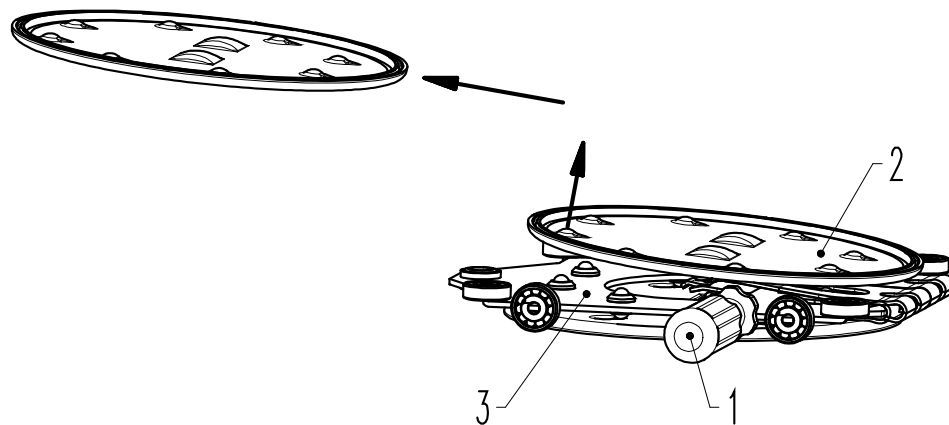
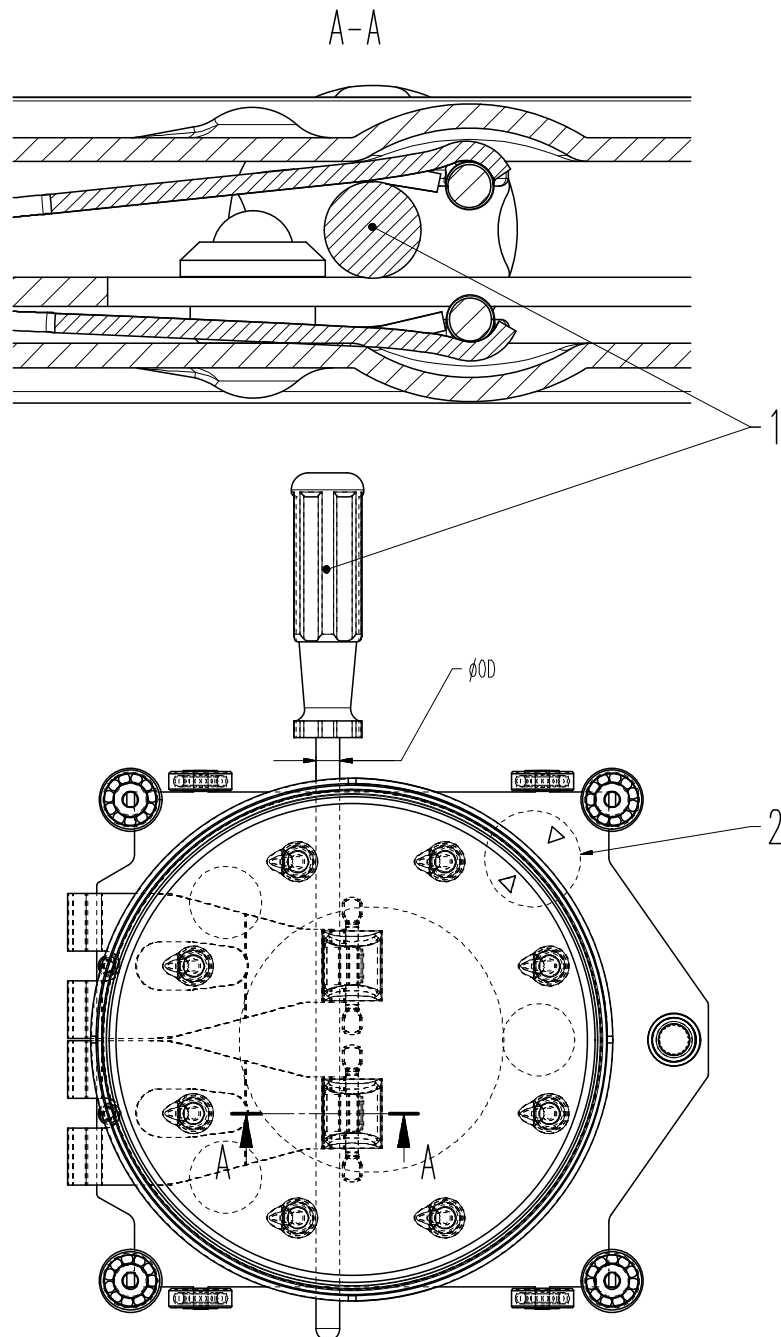

Figure 6-3
Figure 6-4
For dismounting and mounting the valve gate always use tool (1) according to «Figure 6-3». The tool may be ordered from VAT.
9. Lift valve gate (2) by hand and insert tool (1) between valve gate (2) and ball guidance (3); see «Figure 6-3» and «Figure 6-4» on page 17.
10. Remove valve gate in direction of the arrow; see «Figure 6-3» on page 16.
The markings  $\Delta$  and  $\nabla$  (2) according to «Figure 6-4» on page 17 on ball guidance and valve gate must face each other.
12. Withdraw tool according to «Figure 6-3» on page 16.